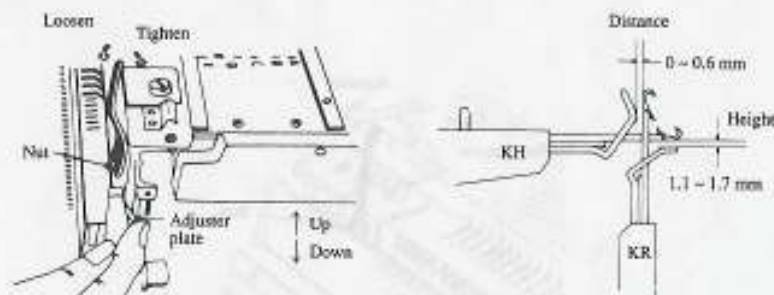
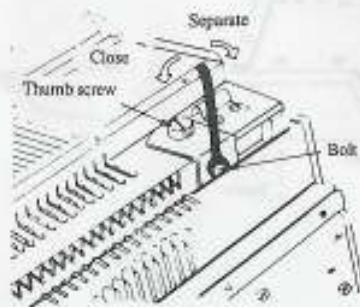

Fig. 22-3
Fig. 22-4
1.2 Height of ribber bed. (See Fig. 22-3)
1.3 Distance between two beds. (See Fig. 22-3 and Fig. 22-4.)